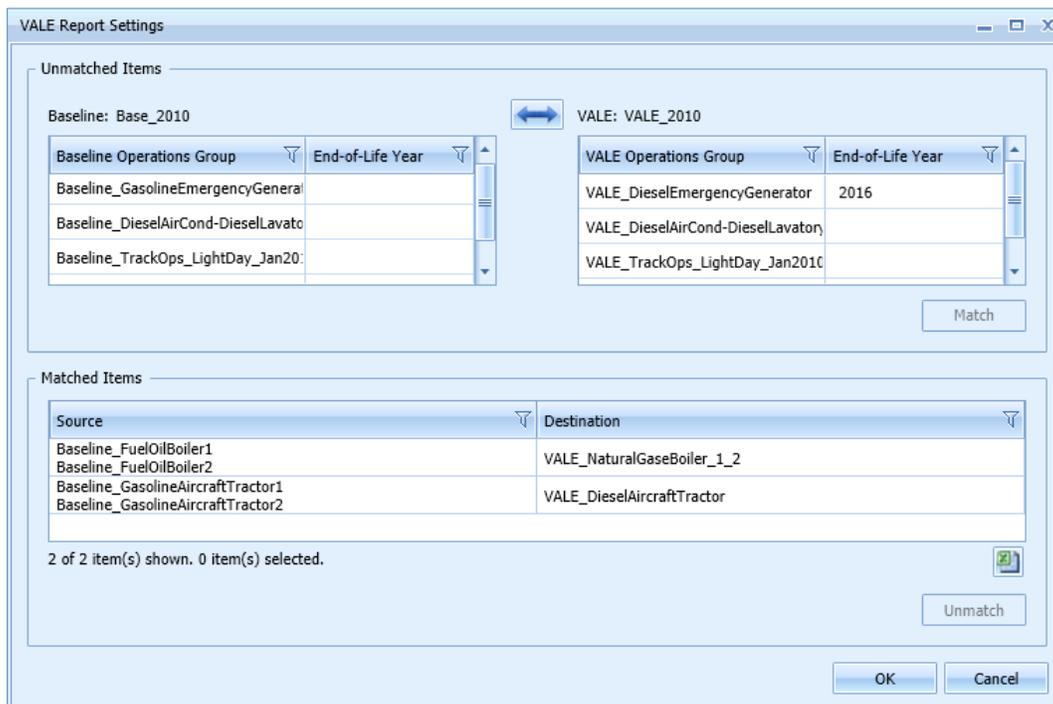

Figure 5-62 Sample VALE Report Settings Dialog
2. From the *View Reports* ribbon group, click *VALE Report* to open the *VALE Report Settings* dialog (Figure 5-62).